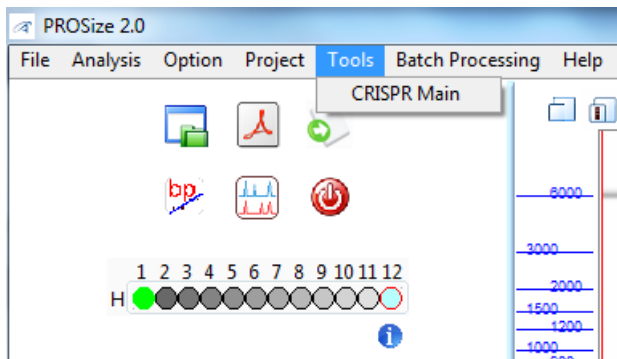

Figure A1. Launching the ProSize CRISPR Main plugin.
- 2 From the ProSize main screen, select the dropdown **Tools** > **CRISPR Main** to open the CRISPR Main plugin (Figure A1).